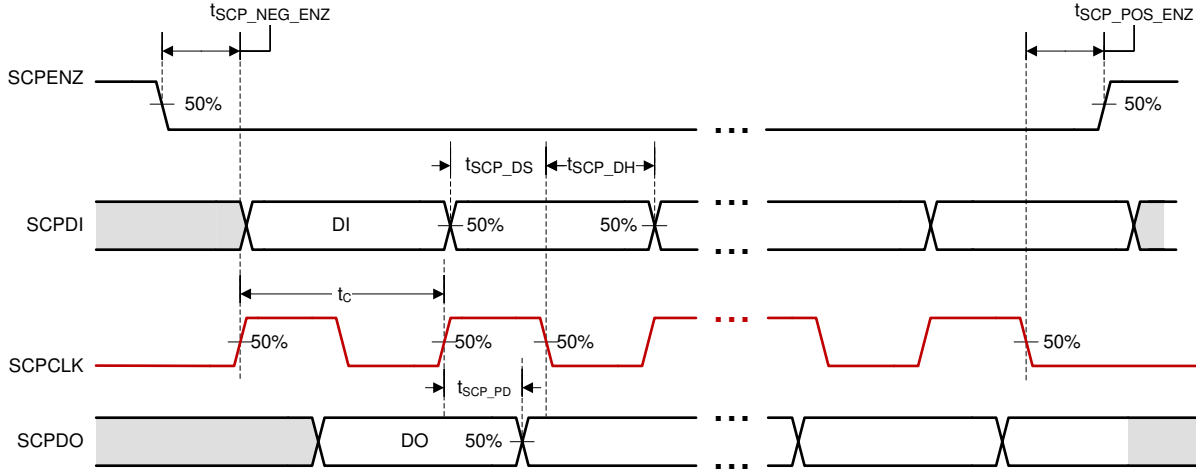

图 6-2. SCP Timing Requirements
- (5) Low-speed interface is LPSDR and adheres to the Electrical Characteristics and AC/DC Operating Conditions table in JEDEC Standard No. 209B, "Low-Power Double Data Rate (LPDDR)" JESD209B. Tester conditions for V_{IH} and V_{IL} .
- (6) PWRDNZ input pin resets the SCP and disables the LVDS receivers. PWRDNZ input pin overrides SCPENZ input pin and tristates the SCPDO output pin.
- (7) The SCP clock is a gated clock. Duty cycle must be 50% \pm 10%. SCP parameter is related to the frequency of DCLK.
- (8) See 図 6-2.